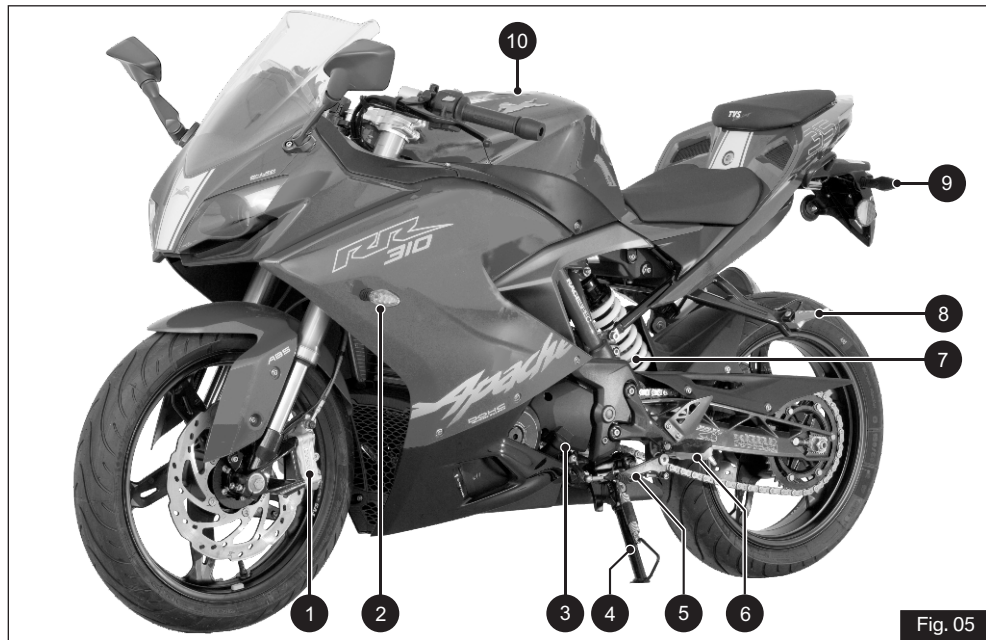

Fig. 05
**Location of Parts - Vehicle LH Side View (Ref. Fig. 05)**